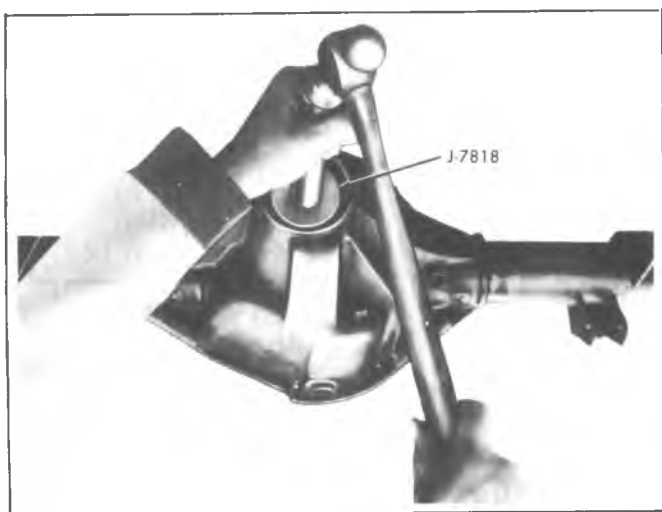

Fig. 22F--Installing Outer Pinion Bearing Cup
4. Install outer cup in carrier bore, using installer J-7818 with Drive Handle J-8092 as shown in figure 22F.